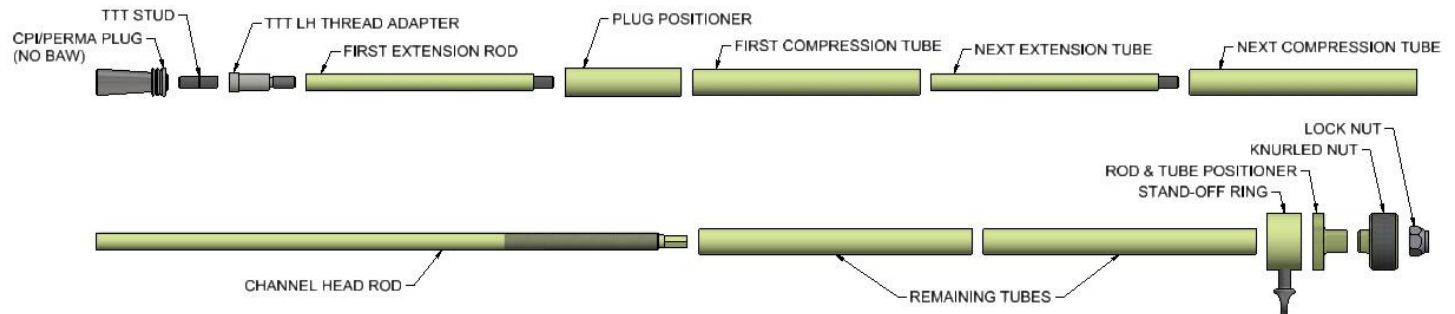

FIGURE 6: PULL ROD ASSEMBLY SET-UP
12. Set the Stand-Off Ring. A Stand-Off Ring is used to set the proper Installation Depth prior to installing the plug. The Stand-Off Ring locks onto an Extension Tube by tightening a thumb screw, refer to Figure 6. Make a measurement from the middle of the ring back along the Extensions for a distance equal to the Installation Depth. Using a file, mark the Extension at that point. The mark is permanent and will allow you to check that the Stand-Off Ring is in the proper position prior to each plug installation. Slide the Stand-Off Ring to the mark and firmly tighten the thumbscrew.